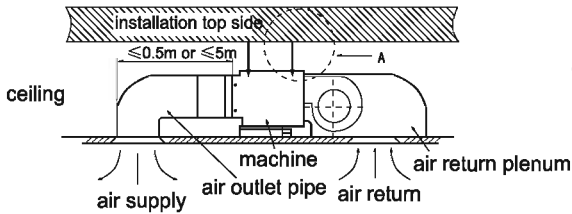
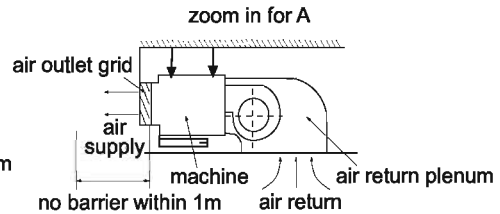

Fig.2
Fig.3
The fan is mounted with red down-lead end and red down-lead end. The standard model was set when the machine was made in the factory. The red down-lead end with high speed can be used when the filter with high performance is used to make static pressure ascend. The connected style is shown in Fig.3.
- Concealed indoor units should be designed with air return plenum, as shown in Fig. 2 & Fig. 3.